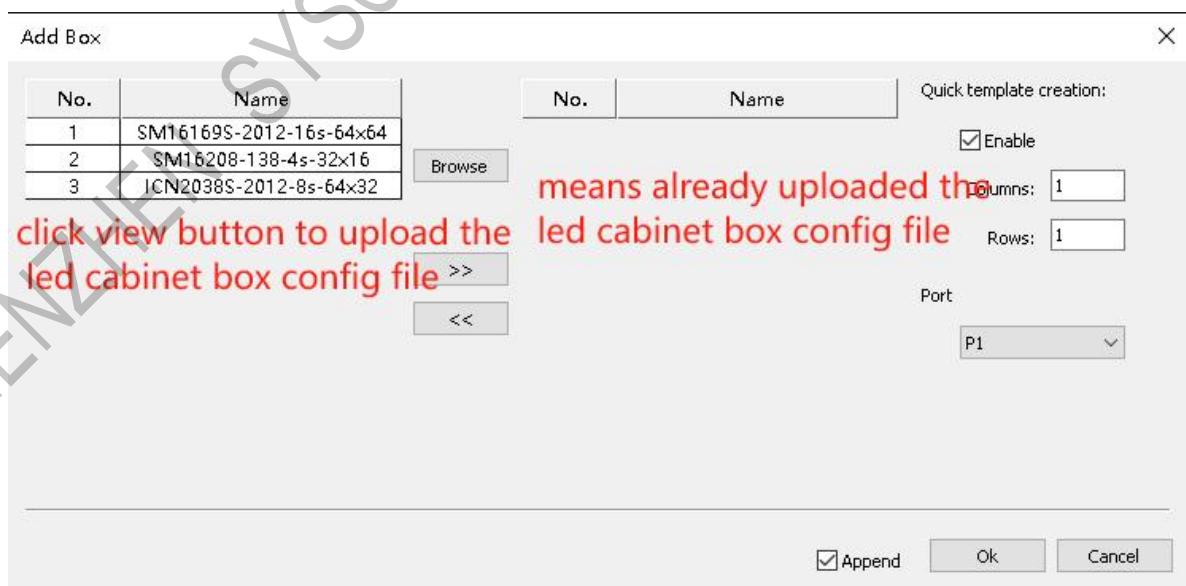

Figure 4-3-2 Load box configuration
(2) Add box file. When the display to be debugged consists of multiple types (box size, chip type, module design, etc.) of boxes, click to select the first ① loading method to enter the add box interface, click Browse on this interface to load the box configuration file, as shown in Figure 4-3-2.